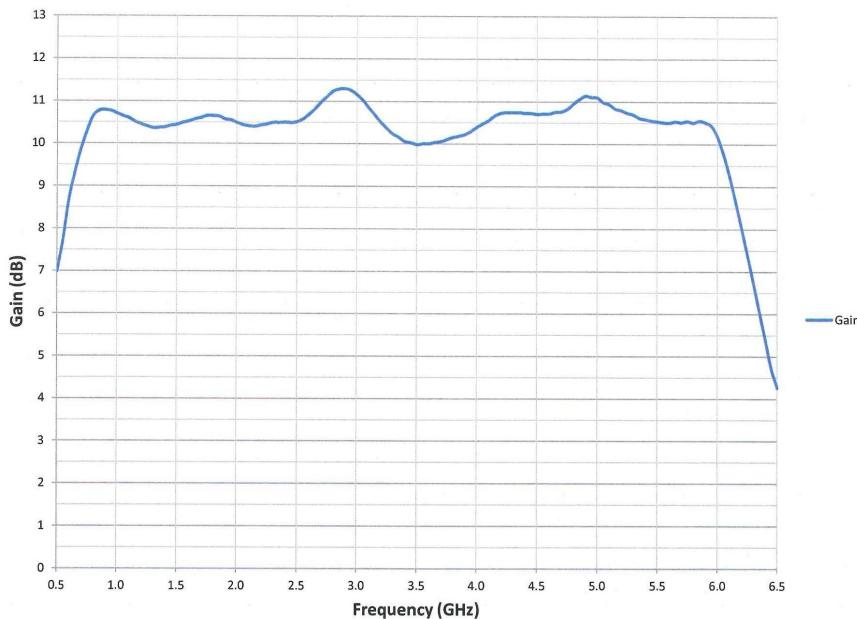

Figure 4-7. Typical Quad Amp Response
7. If the response of the output stages (i.e., A4 Four-Way Splitter input to front panel RF output) is normal, check the response of the A3 Quad Amp (see Figure 4-7).
NOTE: The A2 Driver amplifier, and the A1 Preamplifier's response may differ considerably, particularly in flatness, from the typical response shown in Figures 4-7 and 4-8.